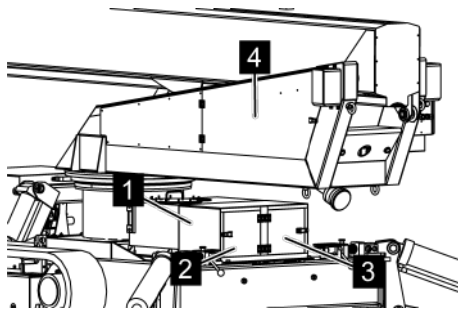

Fig. 137: Shuttle valve cover
2. ➔ Open doors (Fig. 137/2 and 3) or completely and remove the cover (Fig. 137/1).
3. ➔ Open the door (Fig. 137/4).